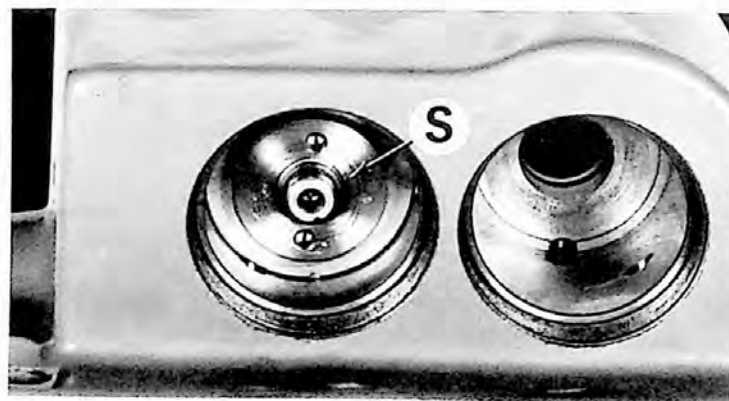

Figure 62 — Spanner Nut for Roller Clamp Piston
- Remove nut "S", Figure 62.
- Replace O-ring "B", Figure 64, piston plate "A" and nut "S", Figure 62.